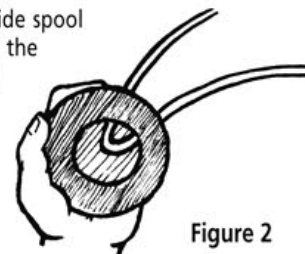

Figure 2
- Loop both ends through holes inside spool and make certain that both lines of the loop are extended evenly (Figure 2)